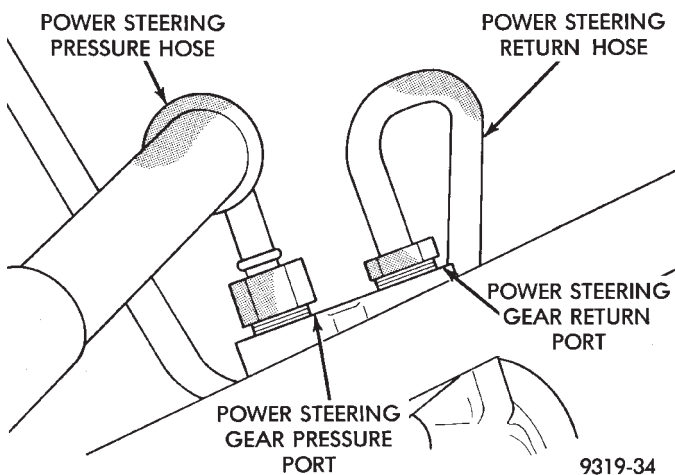

Fig. 9 Power Steering Hose Connections At Steering Gear
(13) Remove the 2 nuts attaching the master cylinder assembly to the vacuum booster. Remove the master cylinder with the brake tubes connected, from the vacuum booster. Carefully position the master cylinder assembly against left shock tower.
(14) Remove the power steering pressure hose and return hose (Fig. 9) from the power steering gear
(6) Attach power steering fluid, pressure and return lines into proper ports of the steering gear (Fig. 9). Tighten both power steering hose tube nuts to a torque of 31 N·m (23 ft. lbs.).